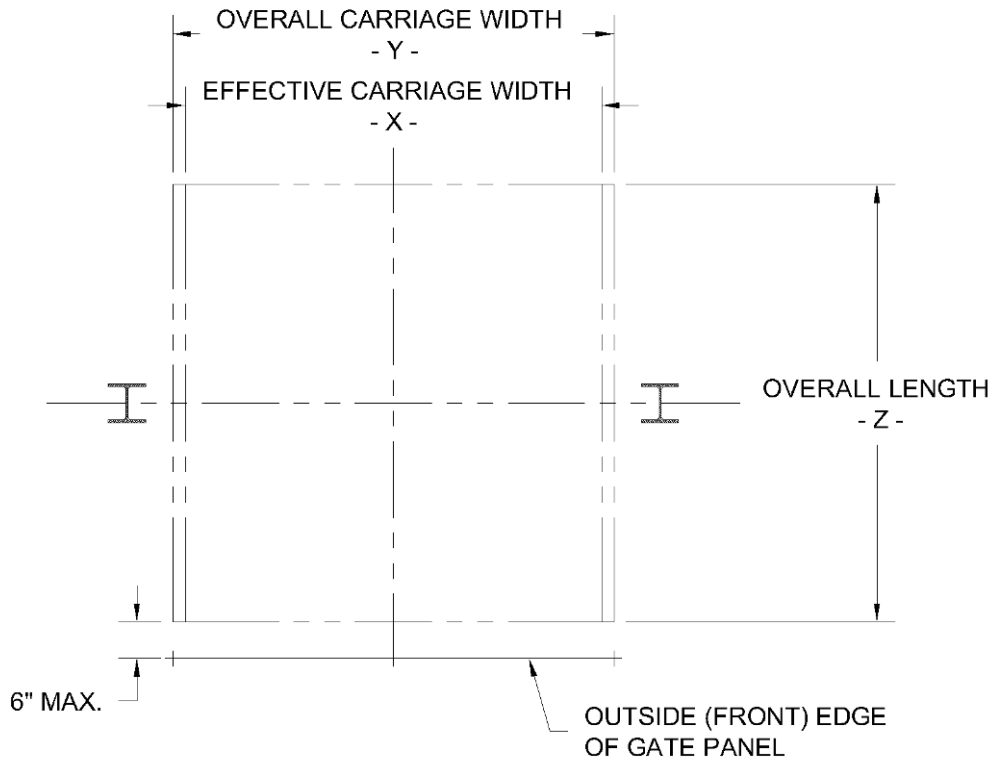

Figure 11 - Floor Layout
8. Snap a chalk line in front of the platform at the distance the gate panel will be from the face of the lift platform (see **Figure 11**).